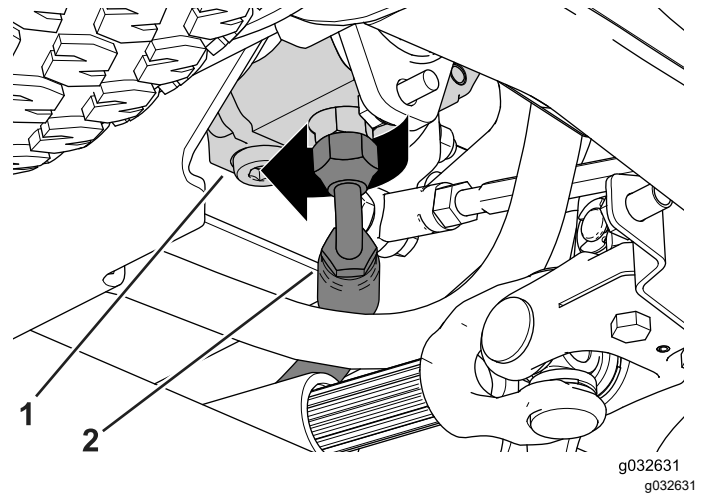

Figure 80
1. At the gear pump, loosen the supply-hose fitting and rotate it toward the front of the machine (Figure 80).